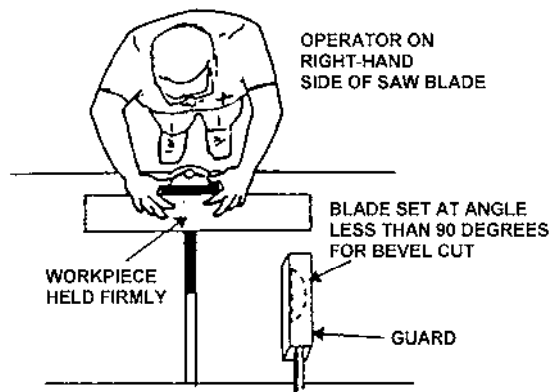

Figure 44
1. A bevel cut is a special type of operation where the saw blade is tilted at an angle less than 90 degrees to the table top. Operations are to be performed in the same manner as ripping or crosscutting. When beveling with the miter gauge, the workpiece must be held firmly to prevent creeping (Figure 44).